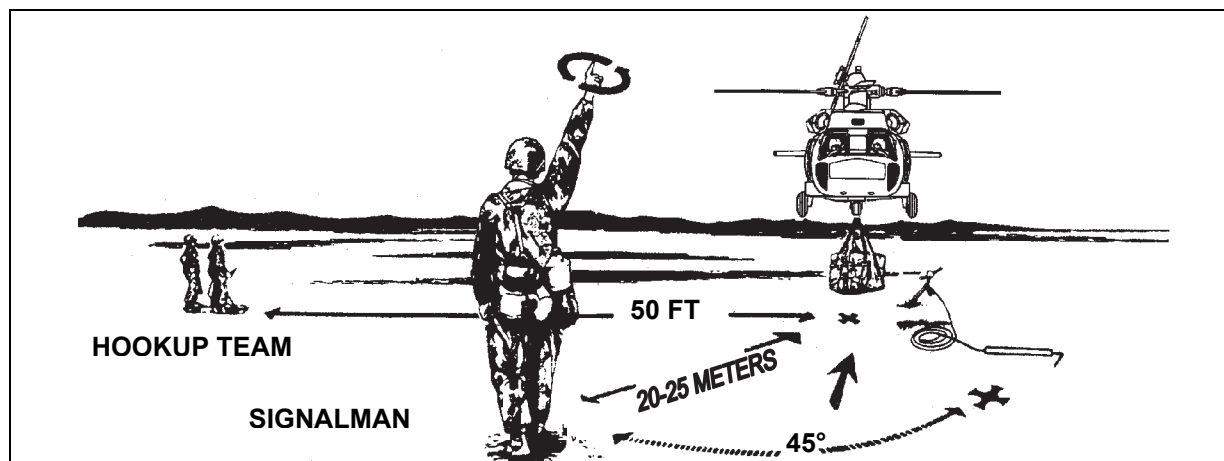

Figure 5-7. Ground Crew Position During Helicopter Takeoff
- When the load is 10 to 20 feet higher than the surrounding loads or obstacles, the signalman gives the takeoff signal in the direction he wishes the pilot to depart the landing site. When pointing, the signalman steps off in the same direction as he is pointing to make his signal more pronounced. He then moves out of the way so the helicopter does not pass directly overhead. After the pilot completes any required aircraft checks, he departs the area (figure 5-7).